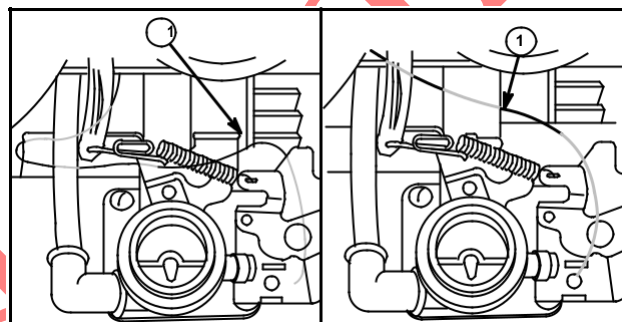

Fig. 52
6. Install mounting bolts. Fig. 52 shows routings of stop switch wires (1).